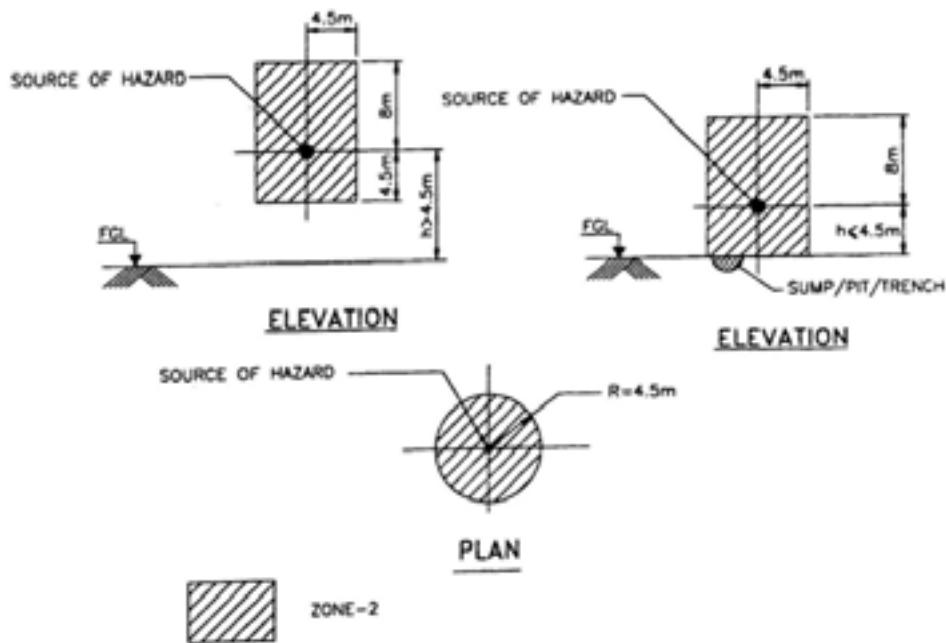

FIG. L1 FREELY VENTILATED PROCESS AREA (FOR LIGHTER-THAN-AIR GASES OR VAPOURS)
- a. Figure L1 illustrates the situation when a source of hazard which may give rise to a hazardous atmosphere only under abnormal conditions is located in the open air. The hazardous area should in this case be classified as Zone 2. If the source of hazard gives rise to a hazardous atmosphere under normal operating conditions, the area described in Fig. L1 as Zone 2 should be classified as Zone I.